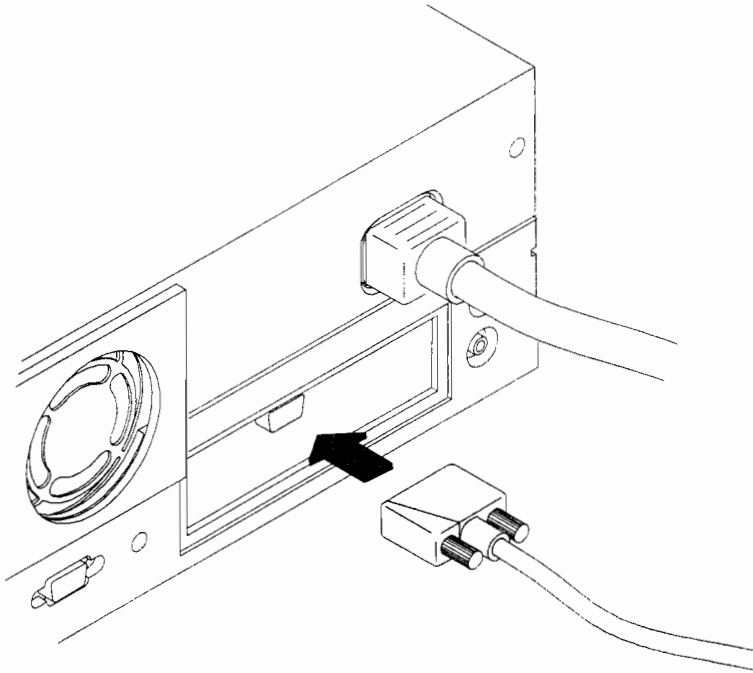

Figure 1-4. CRX-24 or CRX-24Z Graphics Connector
- Color graphics card (CRX-24 or CRX-24Z graphics) — This device has a D-sub miniature connector which is connected to the monitor by a cable, as shown in Figure 1-4.
Figure 1-4 shows the location of the CRX-24 or CRX-24Z graphics connector on the system unit's rear panel.